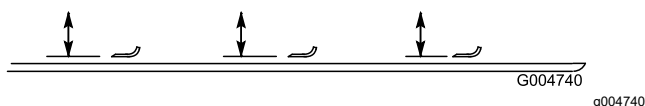

Figure 140
4. Rotate the blade until the ends face forward and backward, and measure from the inside of the cutting unit to the cutting edge at the front of the blade (Figure 140).